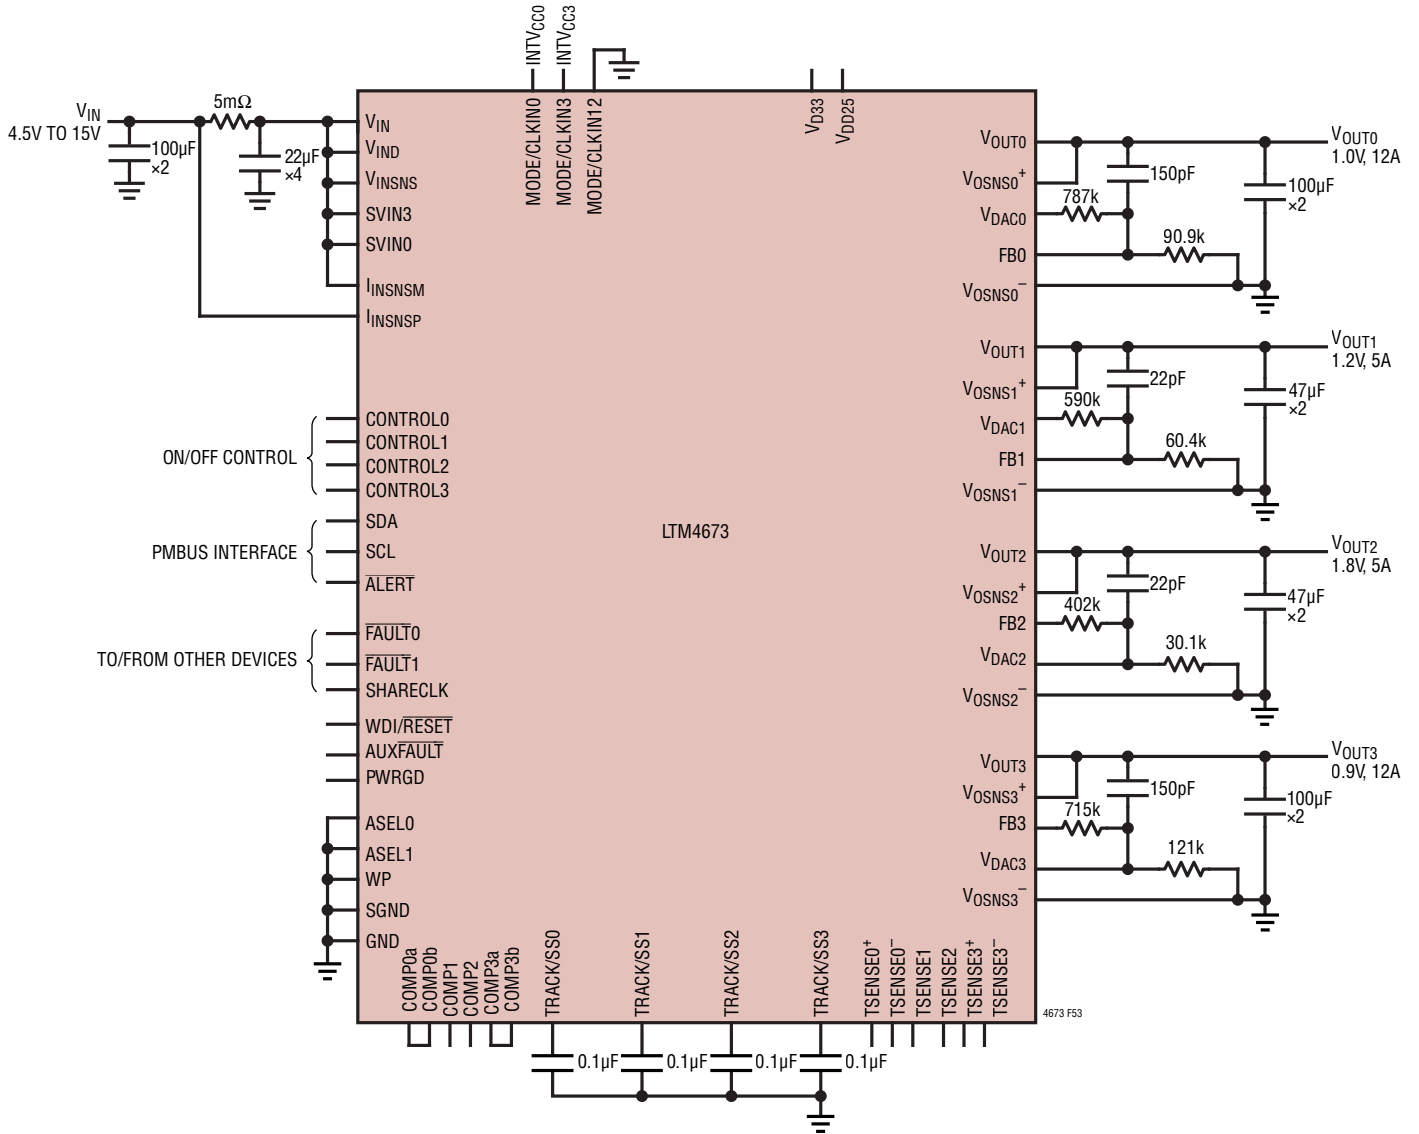

Figure 53. 4.5V to 15V Input, Quad Output Design
**Table 6. Output Voltage Response vs Component Matrix (Refer to Figure 53) 0 to 25% Load Step Typical Measured Values**